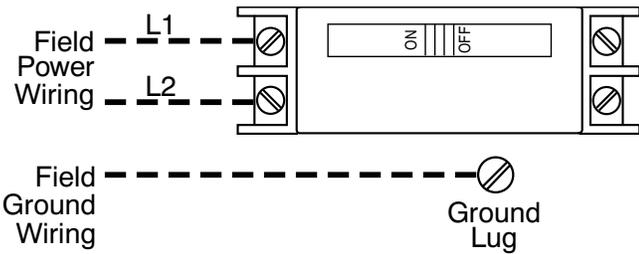
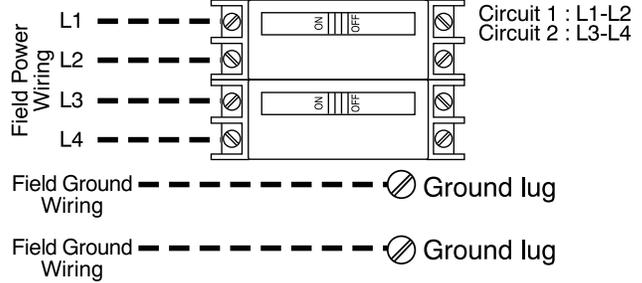

Fig. 8 – 5, 8 10 kW Circuit Breaker and Disconnect Heaters
Fig. 10 – 15 and 20 kW Circuit Breaker Heaters
2. Circuit breaker heaters: See Fig. 8 and Fig. 10.